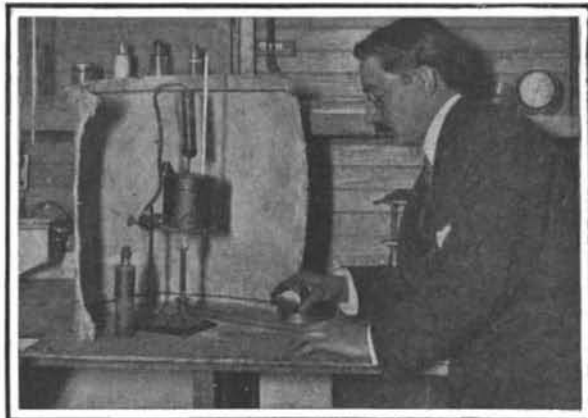

Fig. 1.—VISCOSITY TEST.
3. **Viscosity.**—Of all oil tests, this is probably the most important. By it we determine the fluidity or body of an oil at certain temperatures. For instance, the body or thickness of a cylinder lubricating oil at normal temperature is absolutely no guide to its lubricating quality. It will be much thinner at higher temperatures, such as we find in the cylinders of a gas engine, where the normal temperature is not lower than 200 deg. F. and rises to 350 deg. F. Viscosity, properly speaking, is the cohesion of the oil molecules, and defines their adhering qualities to the metal surfaces which they are to separate and lubricate at given temperatures and pressures. The viscosity test consists in determining the length of time in seconds it takes a certain amount of oil to flow through an aperture such as a small tube of a given size and length. The temperature of the oil is kept either at 100 deg. F. or 212 deg. F. It is essential that this temperature be carefully maintained throughout the test. The body of most oils raised to 300 deg. F. is only about 2 per cent to 6½ per cent of the body at 70 deg. F. (See Fig. 1.)